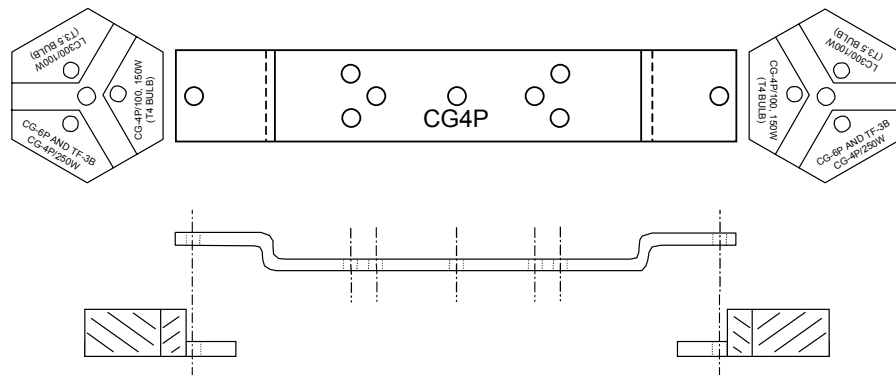
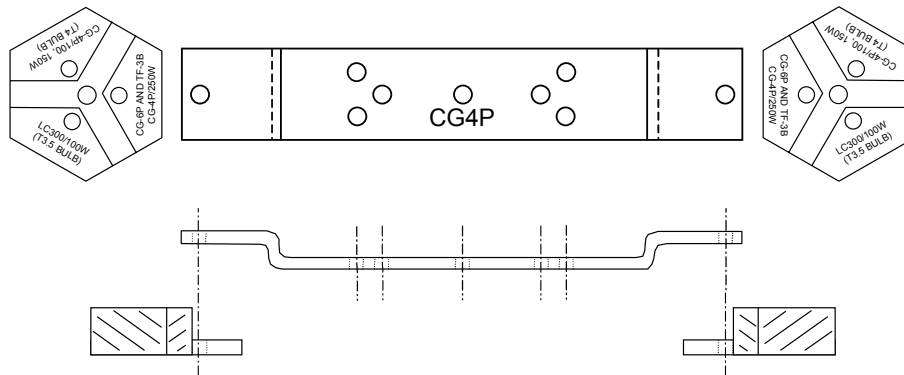

Figure 6-53. Lampchanger Bracket and Spacer Orientation for 120-volt, 150 watt Installation.
Figure 6-54. Lampchanger Bracket and Spacer Orientation for 120-volt, 250 watt Installation.
- (1) Open the range lantern door, and lock the door in the open position.
- (2) Insert the power cable through the cable gland. **INSURE THAT POWER IS SECURED.** Terminate the leads with spring spade lugs sized for a #8 stud. Wire the cable to the terminal block on the back wall of the lantern, and tighten the cable gland.
- (3) Remove the pipe plug from the $\frac{3}{4}$ " NPT threaded hole. Install a $\frac{3}{4}$ " to $\frac{1}{2}$ " reducer pipe bushing in the threaded hole. Insert the leads, and screw a Type K daylight control into the threaded hole. Tighten gently with a wrench.
- (4) Using the "AC Installation Kit" that came with the lantern, attach the color-coded wires to a CG-4P lampchanger. If a daylight control is used, remove the jumper between the red and black terminals of the CG-4P.
- (5) Mount the CG-4P to the lampchanger bracket, with the bracket oriented so that the label "CG4P" is up.
- (6) Wire the Type K daylight control to the CG-4P.
- (7) Rotate the spacer blocks located at the back of the lantern drum so the lampchanger bracket will rest over the spaces marked for the CG-4P AND for the selected lamp (150 or 250 watt), as illustrated in figure 6-53 and figure 6-54.
- (8) Mount the lampchanger assembly on the spacer blocks using the screws, flat washers, and lock washers provided.
- (9) Wire the AC installation kit leads that are installed on the CG-4P to the terminal block.
- (10) Dress any loose wires.
- (11) Close the range lantern door and carefully latch all the latches.
- (12) Turn 120-volt power on.
- (3) Remove the pipe plug from the $\frac{3}{4}$ " NPT threaded hole. Insert the photoresistor leads for a Type L daylight control through the hole. Screw the daylight control into the threaded hole and tighten gently with a wrench.
- (4) Using the "AC Installation Kit" that came with the lantern, attach the color-coded wires to a CG-4P lampchanger.
- (6) Mount a FLAC-300 flasher to the lampchanger bracket.
- (7) Wire the FLAC-300 and CG-4P lampchanger together, using the wires that come with the FLAC-300, as illustrated in Data Sheet 6-E(8).
- (8) Wire the Type L daylight control to the FLAC-300 flasher.
- (9) Rotate the spacer blocks located at the back of the lantern drum so the lampchanger bracket will rest over the spaces marked for the CG-4P AND for the selected lamp (150 or 250 watt), as illustrated in figure 6-53 and figure 6-54.
- (10) Mount the lampchanger/flasher assembly on the spacer blocks using the screws, flat washers, and lock washers provided.
- (11) Wire the AC installation kit leads that are installed on the CG-4P to the terminal block.
- (12) Dress any loose wires.
- (13) Close the range lantern door and carefully latch all the latches.
- (14) Turn 120-volt power on.